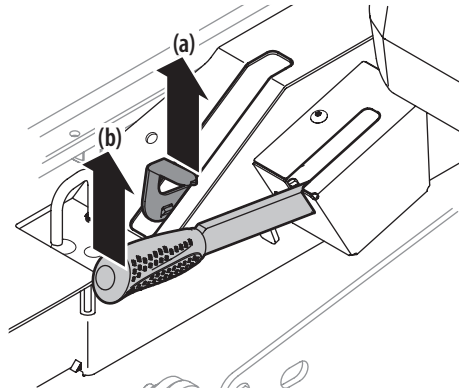

Figure 2-2
4. Engage the transmission bypass valves by pulling the transmission bypass lever (a) outward then upward and all the way back. See Figure 2-2.